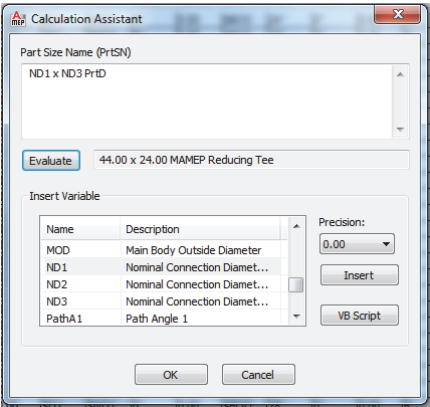

FIGURE 11.20
24. Add a space and then click Evaluate to see if the formula matches (see Figure 11.20).